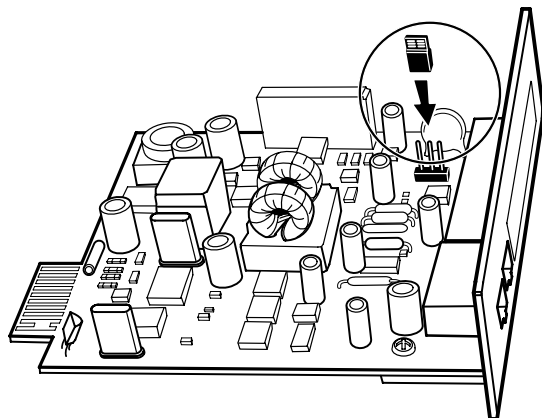

Figure 39. Setting the CAN Bridge Card Jumper J7 (Side View)
6. Set the jumper pins on the Powerware Hot Sync CAN Bridge Card as shown in Figure 39: